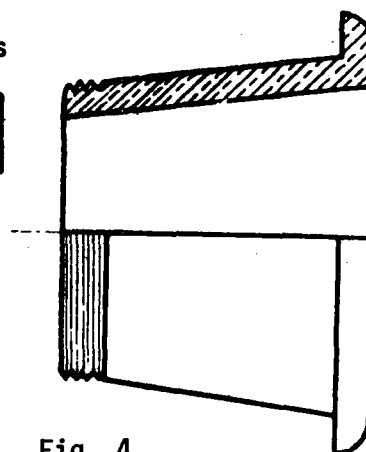

Fig. 4
- c *tapered bearings*, for stresses in both directions (Fig. 4).